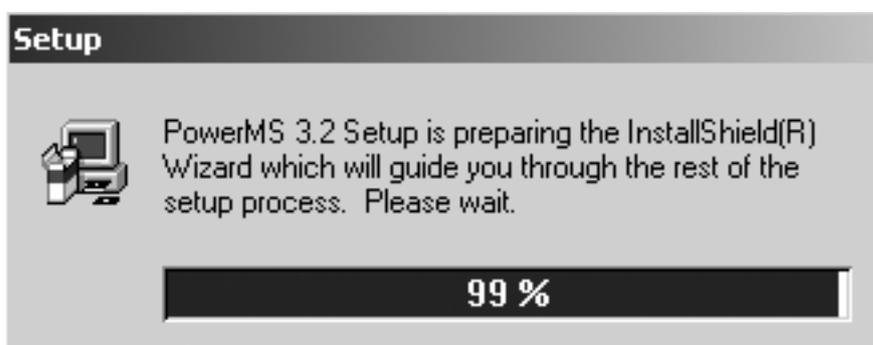

Fig. 3-2 The Initialization of the Installation
3.2.1 Insert the software CD(The CD is included with 3311,3312 or 3313/3314 adapters) into the CD-ROM drive, double-click My Computer => CD => PowerMS => Setup.exe to start the installation, the Fig. 3-2 will be displayed.